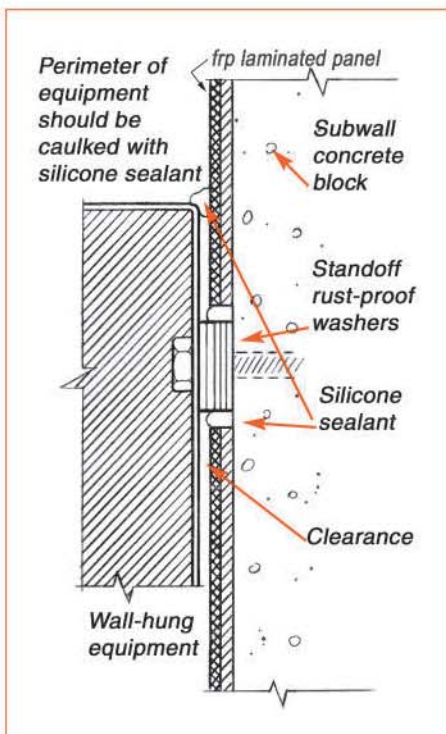

Figure 11
6. Install wall-hung equipment and signs with standoffs (washers) between the substrate wall and equipment, making certain that the standoffs are thick enough to expand and contract. Drill panels 1/4" diameter larger than the standoffs (Figure 11).
8. Caulk and seal all edges to keep water from getting behind the panels (Figure 11).